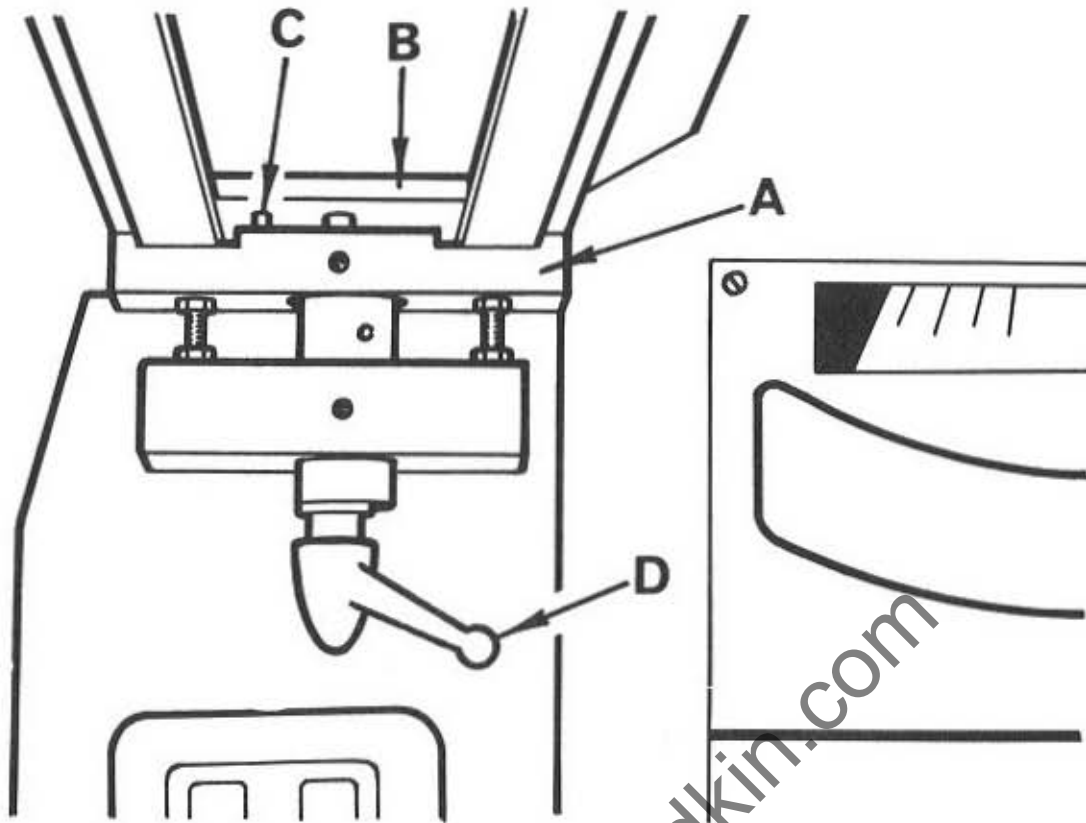

FIG 9
1. Lift beam/sliding table assembly and locate on 2 - brackets "A" in FIG 9 (the brackets are situated at front and rear of machine)
3. Secure the beam by locking the 2 adjustable handles "D" (supplied with machine) at front and rear of machine as shown in FIG 9.
Loosen 2 locking handles "D" in FIG 9 (one at front and rear of machine beneath beam) then slide beam and table unit to the required position. Relock handles "D".